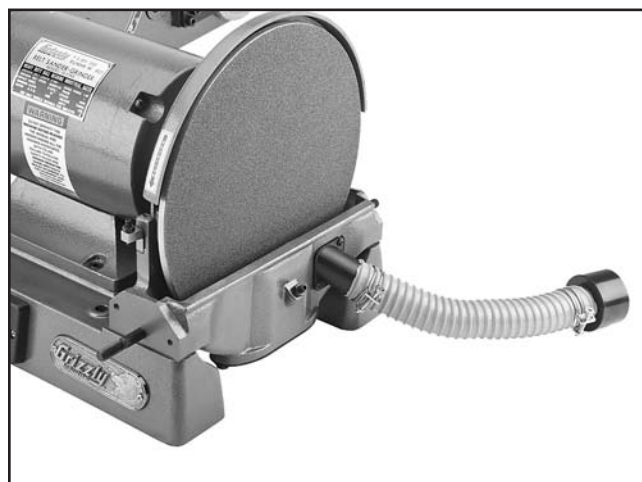

Figure 11. Dust hose assembly attached to the lower disc guard.
16. Attach the dust hose assembly to the lower guard with the two #10-24 x $\frac{3}{8}$ " Phillips head screws, as shown in **Figure 11**.